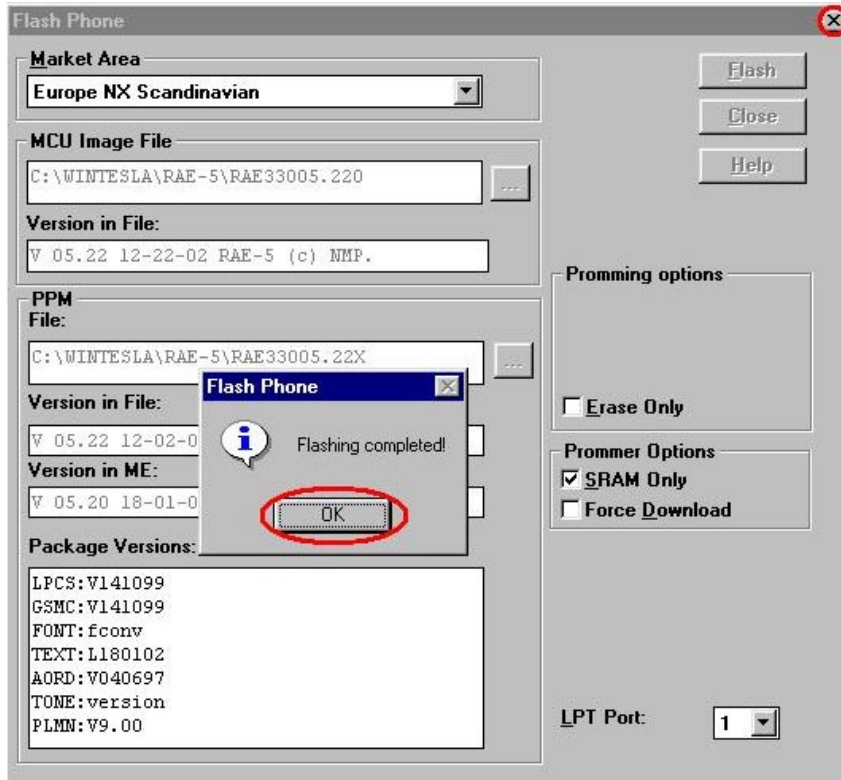

Figure 11. Flash programming completed
13. After Flash programming complete message press OK button and close the *Flash Phone* dialog (see Figure 11)